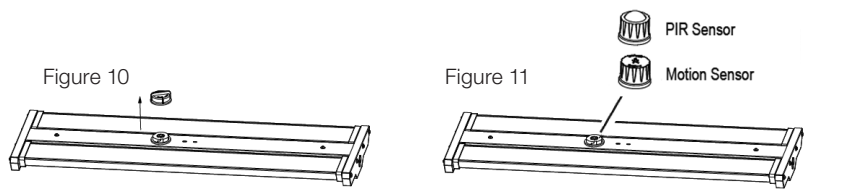

Figure 10
STEP 1: Remove the sensor cap from the base (Figure 10).